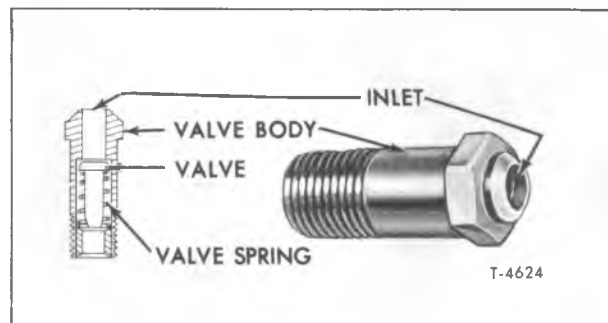

Figure 12—Crankcase Ventilation Valve Used in V6 Engine Cylinder Heads
Ventilation valves (fig. 12) cannot be disas-
2. Visually inspect ventilation valves for accumulation of sludge or other matter at inlet opening (fig. 12).